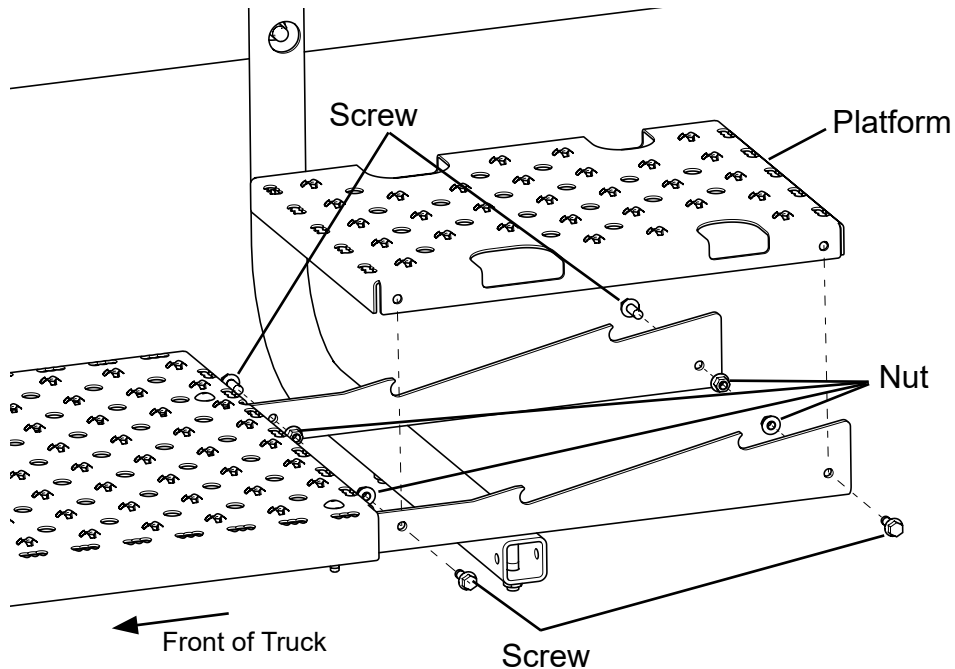

Figure 2
5. Secure platform to angle brackets with four 0.38-16 x 1.0 inch screws (A000A531) and four 0.38-16 inch flanged lock nuts (A000A690), see Figure 2. Final tighten platform mounting hardware to 35 ft. lbs.